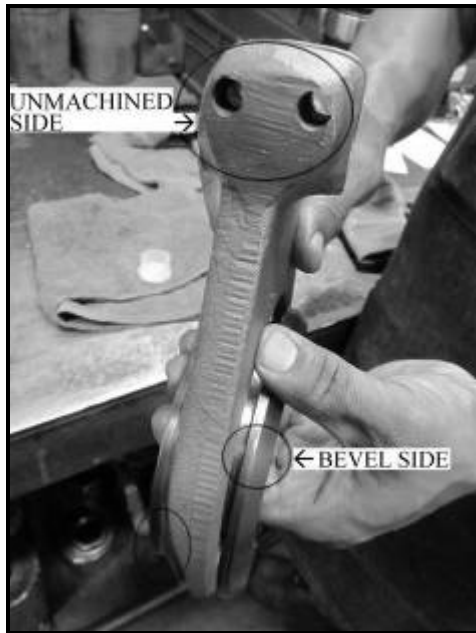

Figure 83
3. Slide the shift fork onto the clutch collar and place the two parts, as a unit, into the declutch housing. See **Figure 83**